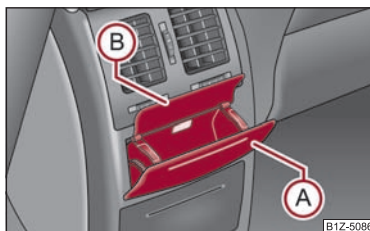

Fig. 85 High centre console: Rear ashtray
- Press on the top part of the cover of the ashtray in area (A) ⇒ fig. 85.